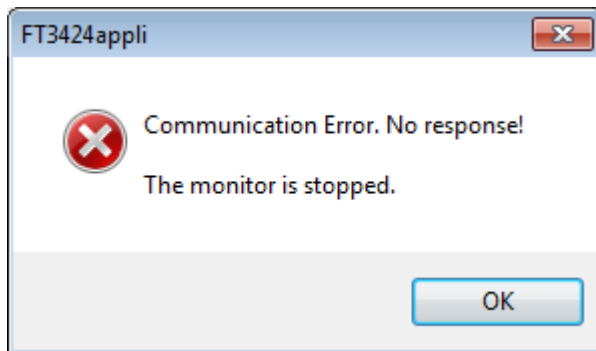

Fig.3-8
(4) If you see the following message (Fig.3-8), it might have next cases.